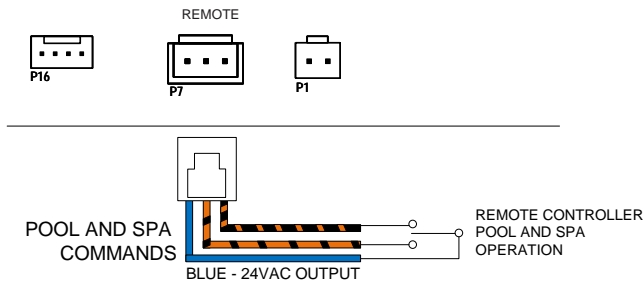

Figure 57. 3-Wire Remote Harness Installation
- On the 3-wire remote interface harness, connect the BLUE wire to one side of the remote automation controller and connect the ORANGE/BLACK wire for "SPA" operation and the BLACK/ORANGE wire for the "POOL" operation. See Figure 57.
- Install the 3-wire remote interface harness to the "P7" connector and turn power ON to the heater. See Figure 57.
10. For 3-wire control, connect the BLUE wire to one side of the remote controller and connect the ORANGE/BLACK wire for "SPA" operation and the BLACK/ORANGE wire for the "POOL" operation. See Figure 57.